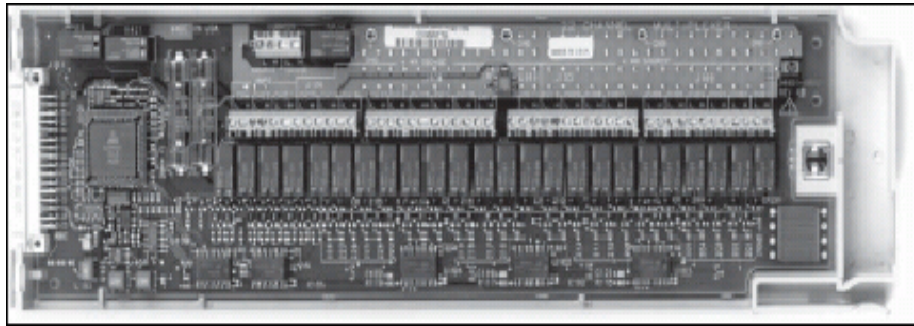

Figure 3-3 The 34901A 20-Channel Multiplexer
- 4 Obtain a J-type thermocouple and install it into one of the channels on the 20-channel multiplexer (34901A). See Figure 3-3.